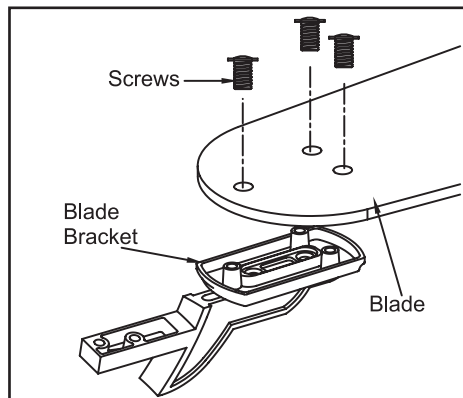

Figure 9
1. Attach blade to blade bracket using the screws supplied (Figure 9). Start a screw into the bracket. Repeat for the two remaining screws.